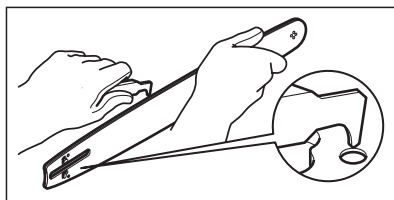

Fig. 14b
- 3). Check the drive sprocket (12). If it is worn or damaged due to strain, have it replaced by an authorised service centre.
- 4). Clear residue from the rails on the guide bar (4) using a screwdriver, putty knife, wire brush or other similar tool. This will keep the oil passages open to provide proper lubrication to the guide bar (4) and saw chain (3) (Fig. 14b).